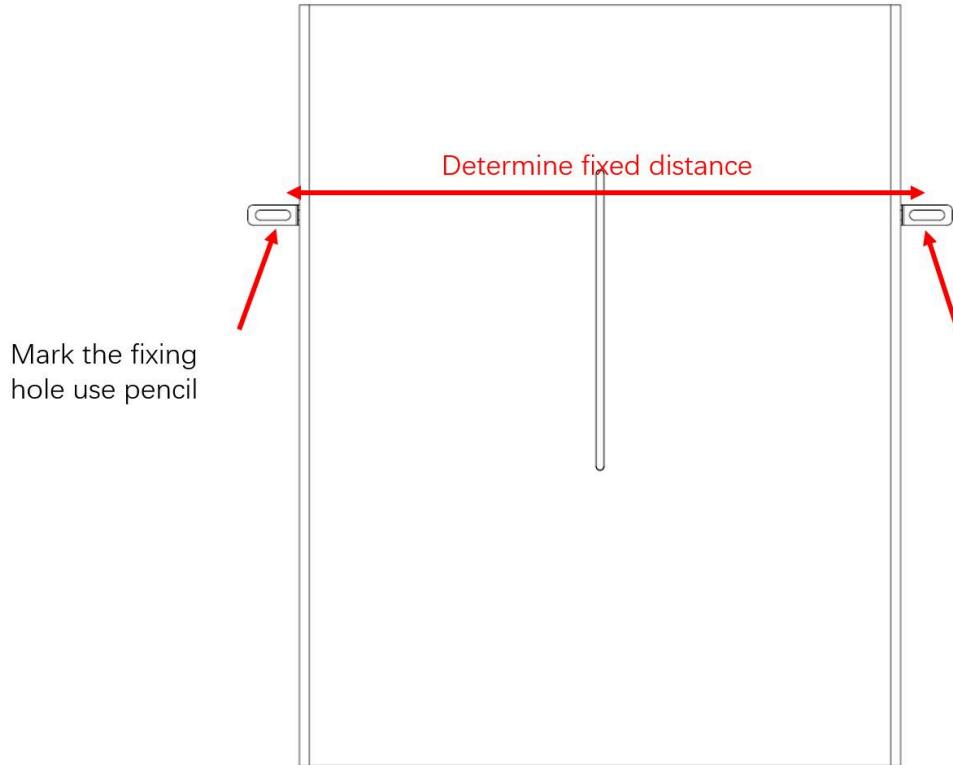

Figure 5-5
d) Stand the battery on the side of the wall, mark the location of the fixing hole, Choose the recommend drill head (as shown in below picture) to drill 2 holes on the wall,100-110mm deep, as shown in Figure 5-2 and Figure 5-5.